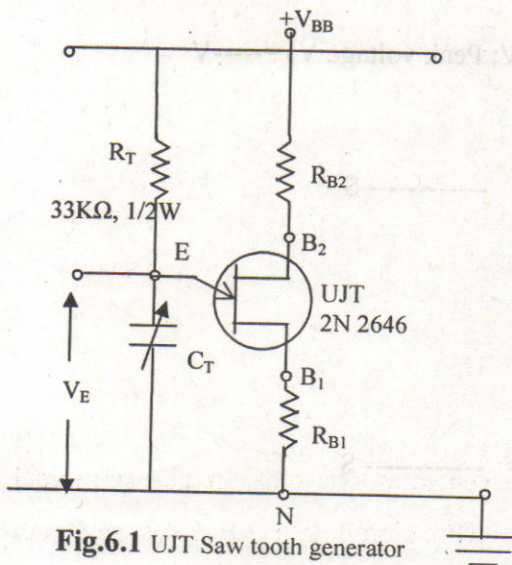

Fig.6.1 UJT Saw tooth generator
2. Connect the circuit as shown in the Fig.6.1.